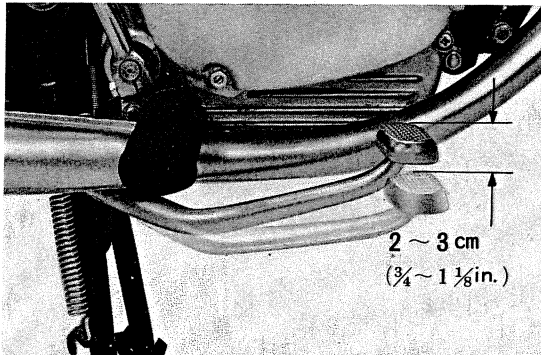

Fig. 21 Brake pedal play
Check the brake free play at the end of the brake pedal. The play should be **2-3 cm (3/4-1.1/8 in.)**. (Fig. 21) If it is not within this range, adjust it in accordance with the following procedure.
1) Turn the adjuster nut clockwise to reduce the amount of play in the brake pedal. (Fig. 21)